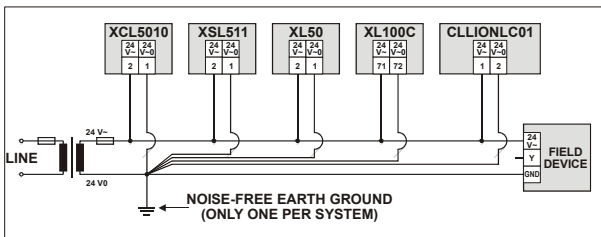

Fig. 59 Connecting and earth grounding mixed controllers (single transformer)
- Make sure that earth ground is connected to the correct terminal according to Fig. 59 and the respective connection diagrams.